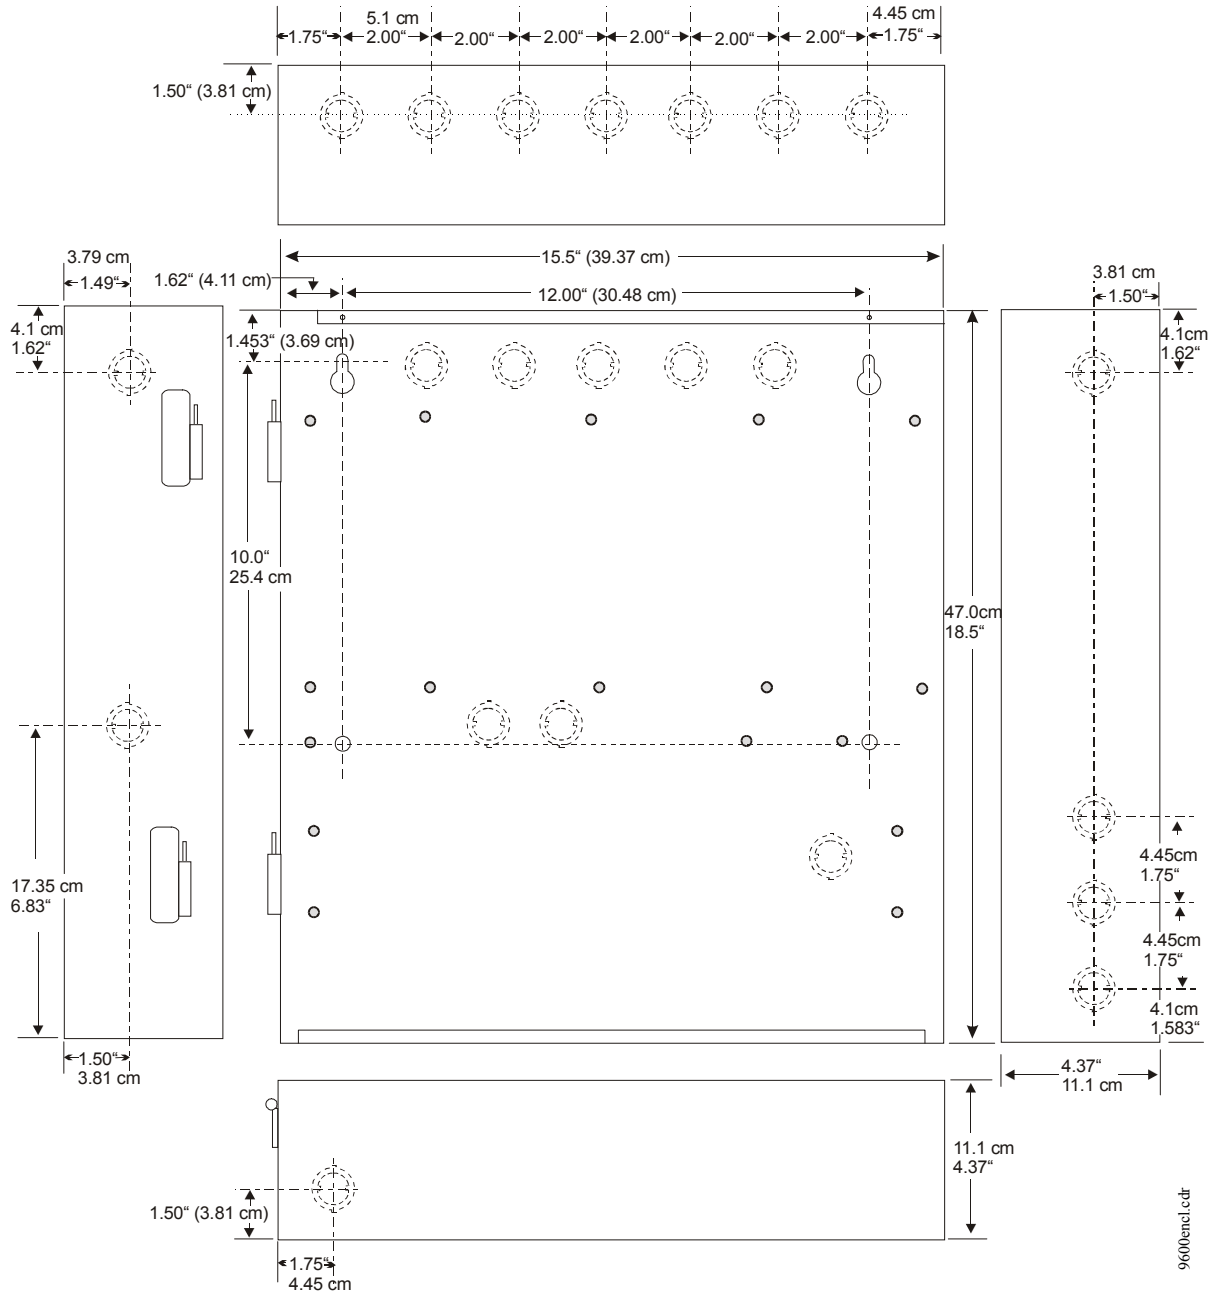

Figure 2.2 Unimode 9600 Cabinet Mounting
- ✓ Mark and predrill holes in the wall for the top two keyhole mounting bolts using the dimensions illustrated in Figure 2.2 on page 25